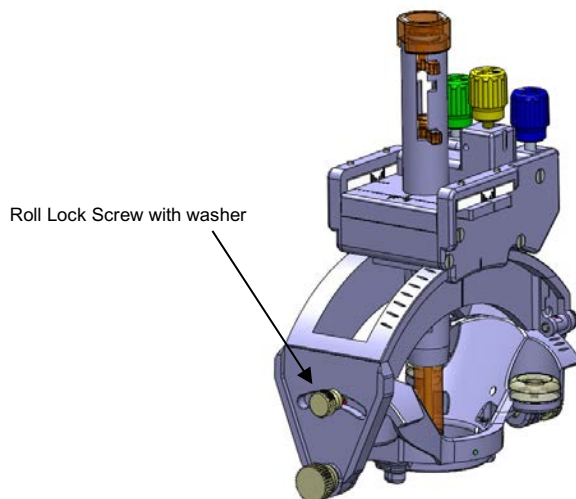

Figure 6: Roll Lock Screw with washer
14. Remove the Roll Lock Screw w/ washer from the SMARTFrame XG package to pre-mount in SMARTFrame XG. Screw in partially to the appropriate location on the SMARTFrame XG. **See Figure 6.** Ensure the Roll Lock Screw w/ washer is not tight. This screw will be tightened later in the procedure.
6. The Roll Lock Screw w/ washer must be tightened after the final roll adjustment is complete. **See Figure 6.** The Roll Lock Screw w/ washer must be loosened, for subsequent roll adjustments.
12. The Roll Lock Screw w/ washer must be tightened after the final roll adjustment is complete. **See Figure 6.** The Roll Lock Screw w/ washer must be loosened, for subsequent roll adjustments.